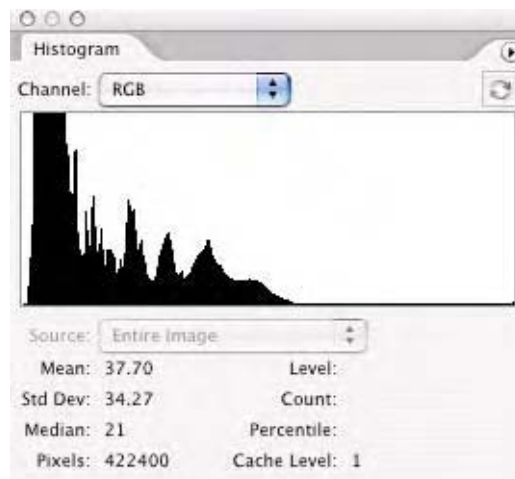

Fig. 9-7-2 The Photoshop Histogram shows all the data in the document is pushed to one end of the tone scale.
3. Once the document opens, you will see that it appears quite dark! Have the Photoshop Histogram open to see that indeed, this image has much of the data pushed toward one end of the tone scale as seen in Fig. 9-7-2.